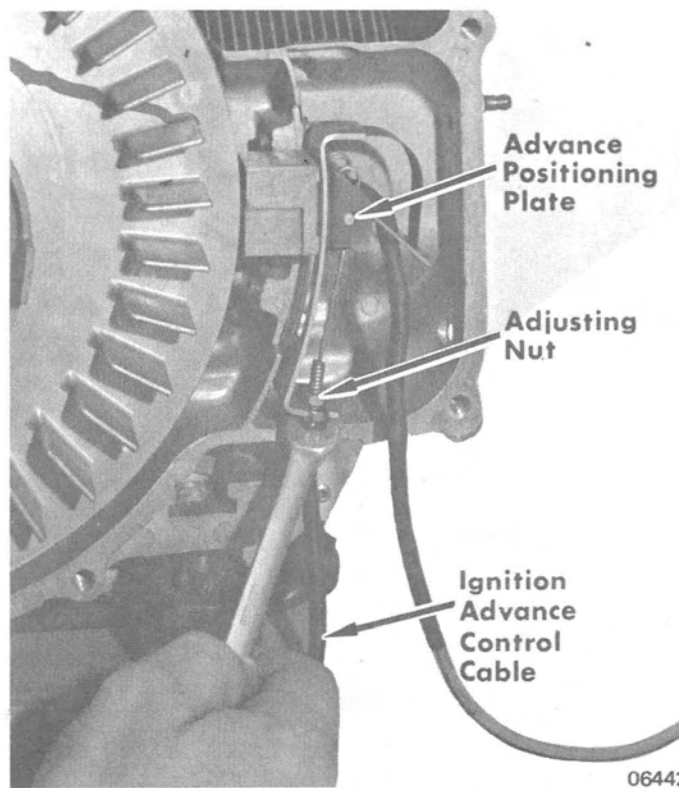

Figure 1. Loosening Adjusting Nuts on Ignition Advance Cable
5. Loosen adjusting nuts on ignition advance cable and unhook core wire from advance positioning plate. (Figure 1)
4. Hook ignition advance core wire in advance positioning plate. (Figure 1)
- c. Secure cable to mounting bracket with 2 adjusting nuts. (Figure 1)